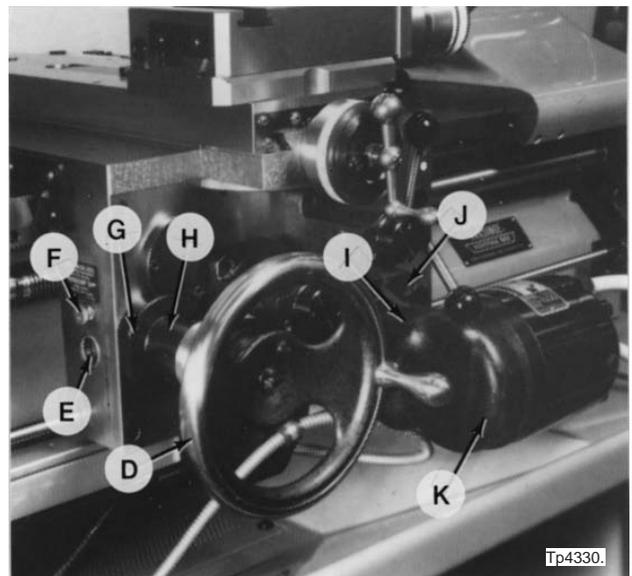

Figure 1.3 - Carriage Handwheel and Power Feed Drive
7. Remove three screws "J" and remove power feed assembly "K", Figure 1.3, from the apron cover.